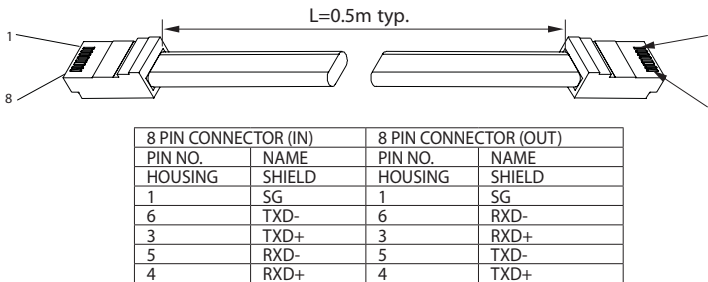

Fig.7-8: Serial link cable with RJ-45 shielded connectors (P/N: Z-RJ45)
3. Using the Linking cable supplied with each unit (Refer to Fig.7-8), connect each unit OUT connector to the next unit IN connector.